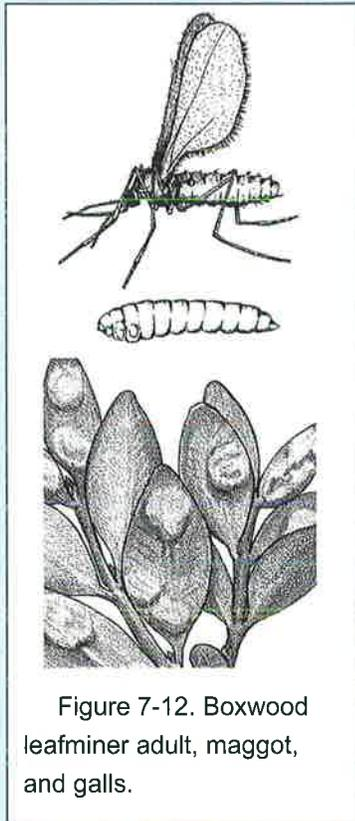

Figure 7-12. Boxwood leafminer adult, maggot, and galls.
Gall makers are insects and mites that cause plants to form galls, which are abnormal growths that provide shelter and food for the pest (Figure 7-12). Galls may form on any part of the plant. Most galls are caused by tiny flies, mites, and wasps. Except for the boxwood leafminer, most gall makers seem to do no permanent damage to their host plants.
**Life Cycle:** Boxwood leafminer adults are orange gall midges about 1/8 inch long. They swarm around or cling to infested boxwoods shortly after new growth has emerged in spring. After laying eggs inside the leaf, the flies die. Tiny, whitish maggots hatch and feed inside the leaf. As they grow, the maggots become bright yellow. Several maggots may develop in a single leaf. Their feeding causes galls that resemble blisters to form on the lower leaf surface (Figure 7-12). Boxwood leafminer maggots develop inside these blisters for almost a year. The next spring, the blisters form a thin translucent spot called the window, and the maggots develop into pupae. Fully developed pupae wriggle through the windows and hang down. Soon adult flies emerge from the pupae to begin a new generation. There is one generation per year.